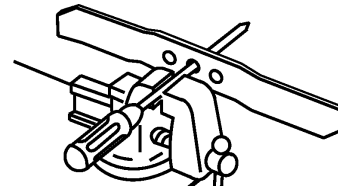

Figure 24
1. Check the balance of the blade by placing the center hole of the blade over a nail or screwdriver shank clamped horizontally in a vise (Fig. 24).